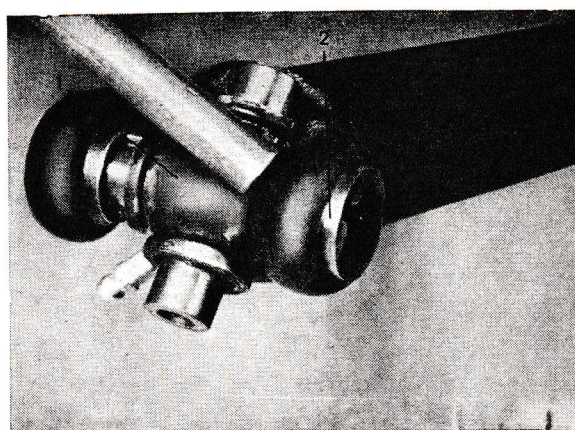

Fig. 10. Disassembling cross.
1. Drive cross (1, fig. 10) as far as possible in one direction by means of a hammer and a brass driver. Needle bearing sleeve (2) will then creep about half-way out.